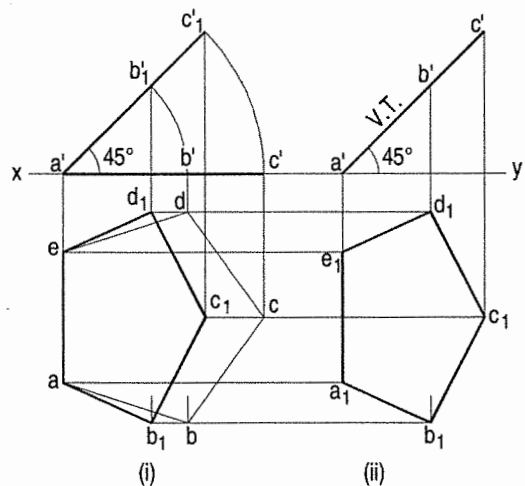

FIG. 12-10
**Problem 12-4.** (fig. 12-10): A regular pentagon of 25 mm side has one side on the ground. Its plane is inclined at  $45^\circ$  to the H.P. and perpendicular to the V.P. Draw its projections and show its traces.
- (i) Draw the pentagon in the top view with one side perpendicular to  $xy$  [fig. 12-10(i)]. Project the front view. It will be the line  $a'c'$  contained by  $xy$ .
- (iii) Project the new top view  $ab_1c_1d_1e$  upwards from this front view and horizontally from the first top view. It will be more convenient if the front view is reproduced in the new position separately and the top view projected from it, as shown in fig. 12-10(ii). The V.T. coincides with the front view and the H.T. is perpendicular to  $xy$ , through the point of intersection between  $xy$  and the front view-produced.